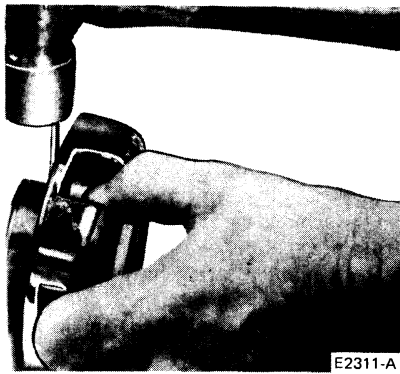

FIG. 18 Lock Pin Installation
5. Install the actuating cam onto the knob, aligning the ears of the cam with the slots of the retainer. Position parts on a small piece of wood as shown. Assemble the lock pin through the groove of the cam and holes in the actuating knob. Be sure ends of the pin are flush with the outside diameter of the cam (Fig. 18).